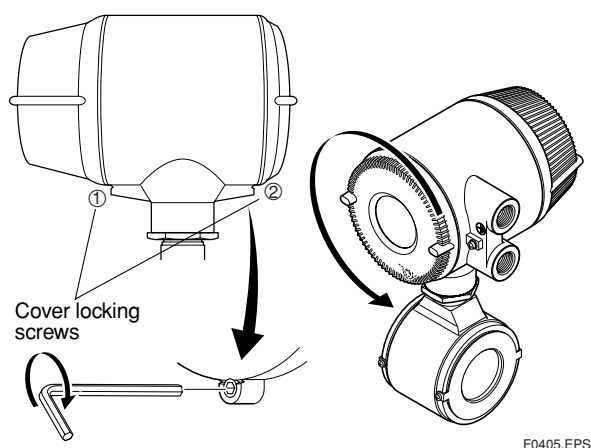

Figure 4.1.5 Removing the Terminal Box Cover
- The terminal box cover is locked by the special screw. In case of opening the terminal box cover, use the hexagonal wrench attached. For handling the locking screw, refer to Figure 4.1.5.